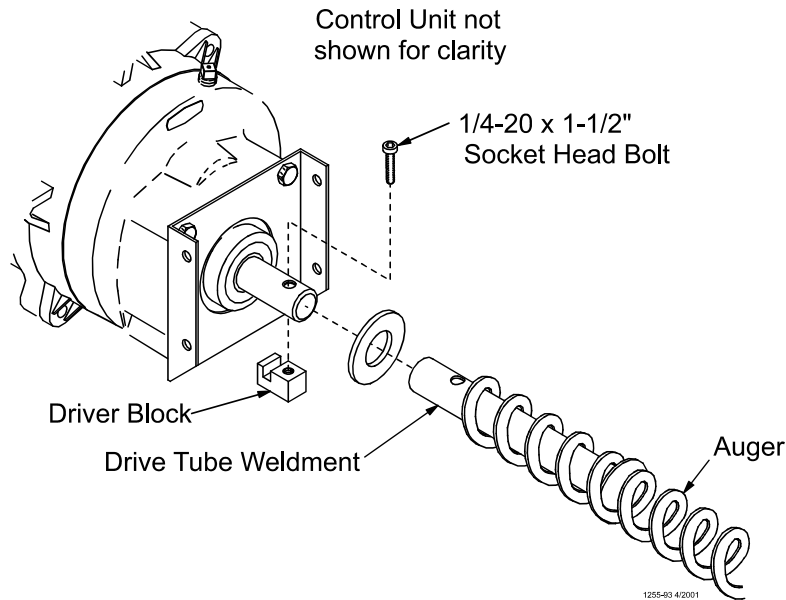

Figure 44. Auger Driver Components
4. Slide the Drive Tube and flat washer over the output shaft on the Power Unit, as shown in **Figure 44**.
6. Turn the Drive Tube Weldment into the auger, then attach to the output shaft of the Power Unit, as shown in **Figure 44**. Use the Driver Block to secure the auger to the Output Shaft.